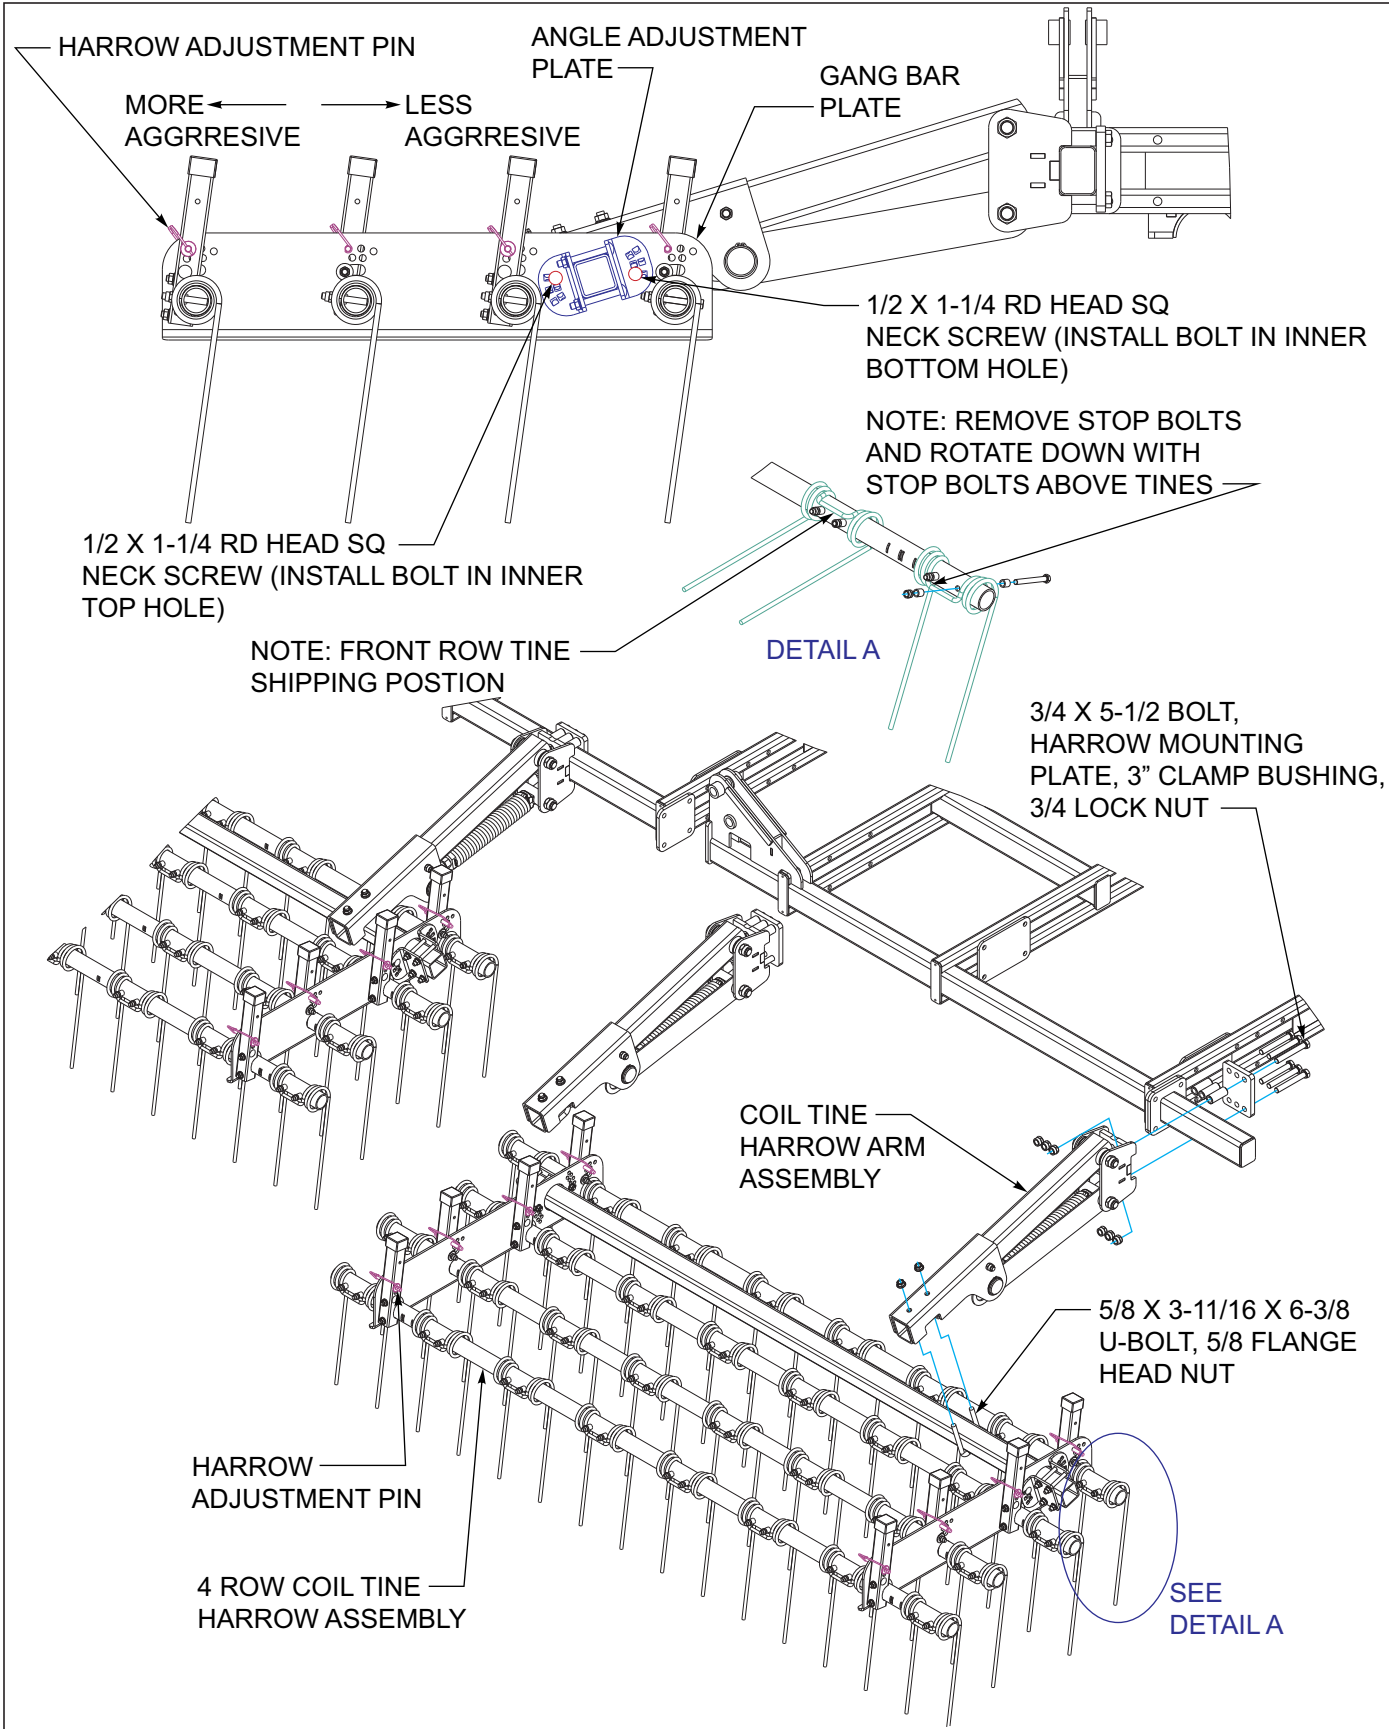

Figure 3-19: 4 Row Coil Tine Harrow Installation
1. Attach coil tine harrow arms to the rear of the field cultivator See Figure 3-19, according to placement dimensions. Clamp bushings are installed on the top mounting bolts.
3. Front row tines are assembled with the tines above the stop bolts to prevent damage when shipping See Figure 3-19 Detail A. Remove front tine bolts and reinstall, with stop bolts above tines.